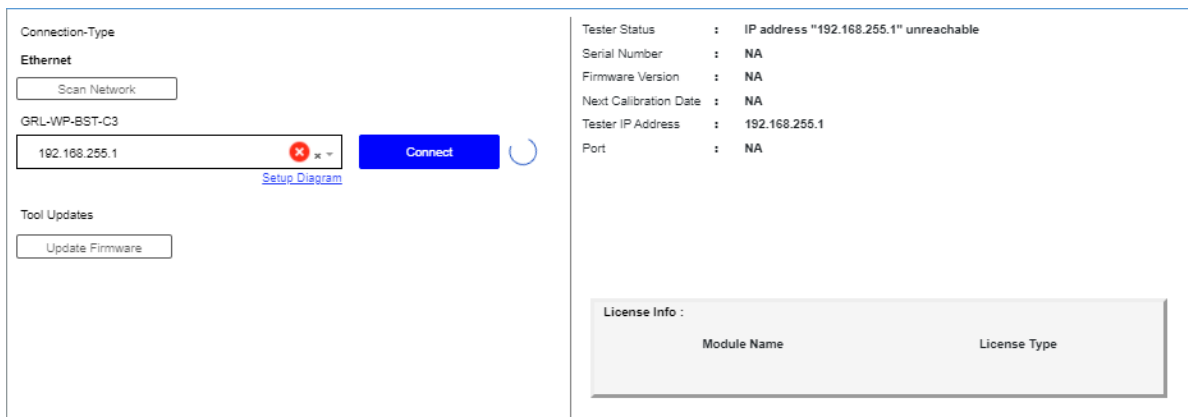

FIGURE 7.7: UPDATE GRL-C3 FIRMWARE– #4
5. After the GRL-C3 tester hardware has rebooted, it will auto-establish connection with the Browser App (Figure 7.7 below).